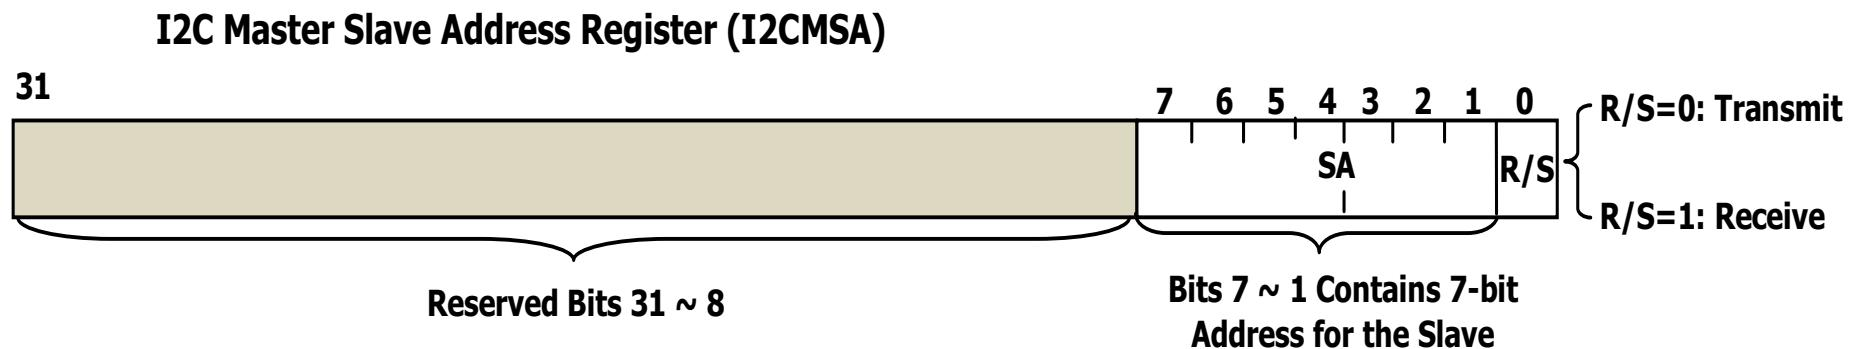

Figure 8.49 The bit field and function for the I2CMSA register.
- This is a 32-bit register and only **lower 8 bits** are used to contain seven bits **address (A6-A0)** for the selected slave device and a **Receive/Send (R/S)** bit, which determines whether the next operation is a **Receive (1)**, or a **Transmit (0)** (Figure 8.49).